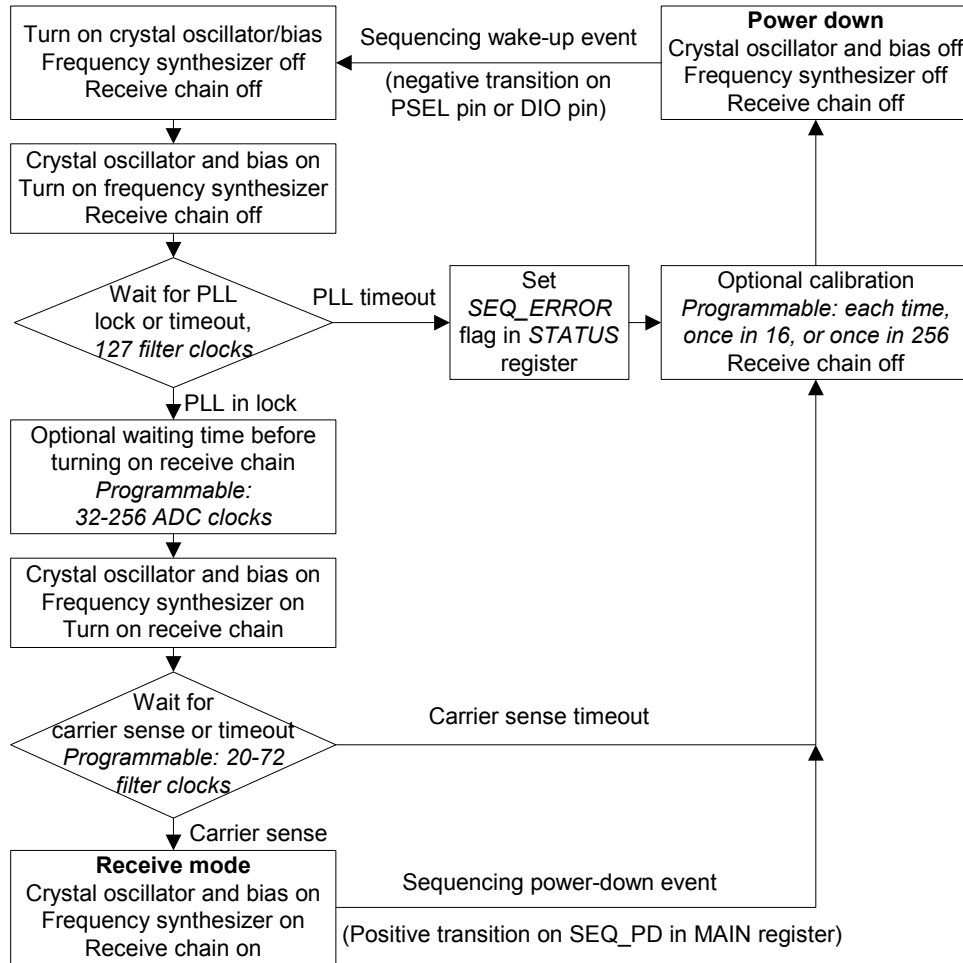

Figure 19. Automatic power-up sequencing flow chart
*CC1020* has a built-in automatic power-up sequencing state machine. By setting the *CC1020* into this mode, the receiver can be powered-up automatically by a wake-up signal and will then check for a carrier signal (carrier sense). If carrier sense is not detected, it returns to power-down mode. A flow chart for automatic power-up sequencing is shown in Figure 19.
Notes to Figure 19: